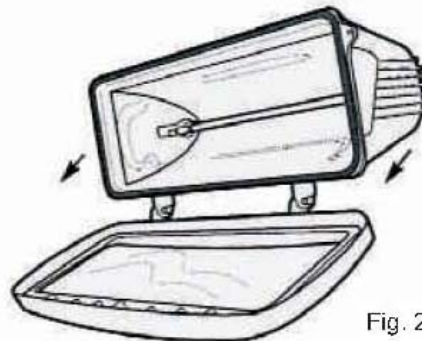

Fig. 2
4. Tighten the barrel nut of the compression fitting so the rubber seal grips the cable. The seal can be adjusted to accommodate cables of approx 3/8" diameter. – see figure 2